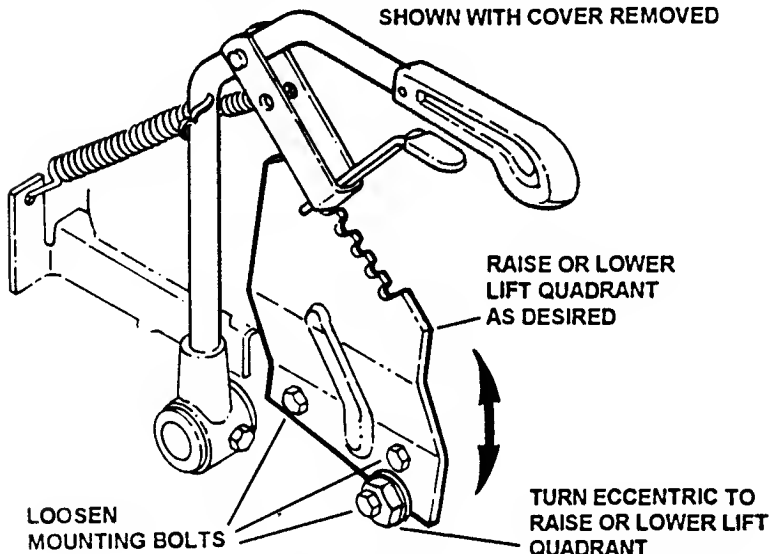

FIGURE 4.13
3. Loosen the two lift quadrant mounting bolts and eccentric bolt. See Figure 4.13.